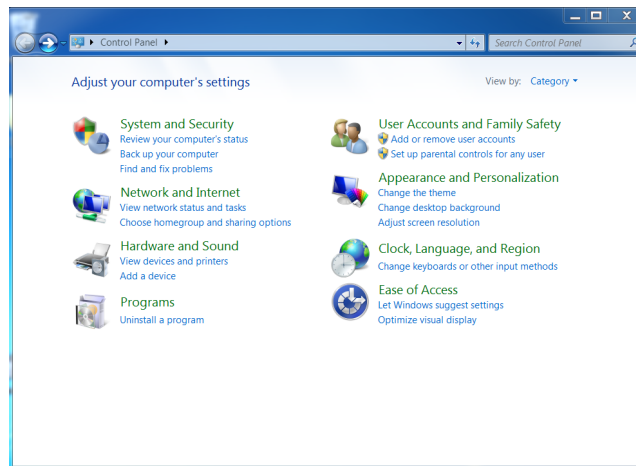

Figure B1
1. Open the control panel (Figure B1).